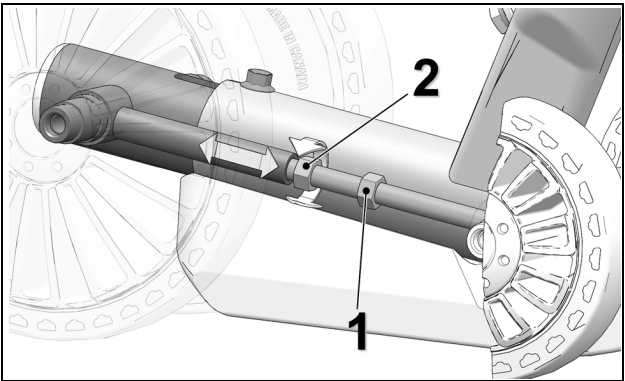

Figure 28
- Loosen jam nut (1) and turn adjusting nut (2) to set track tension. See Figure 28.